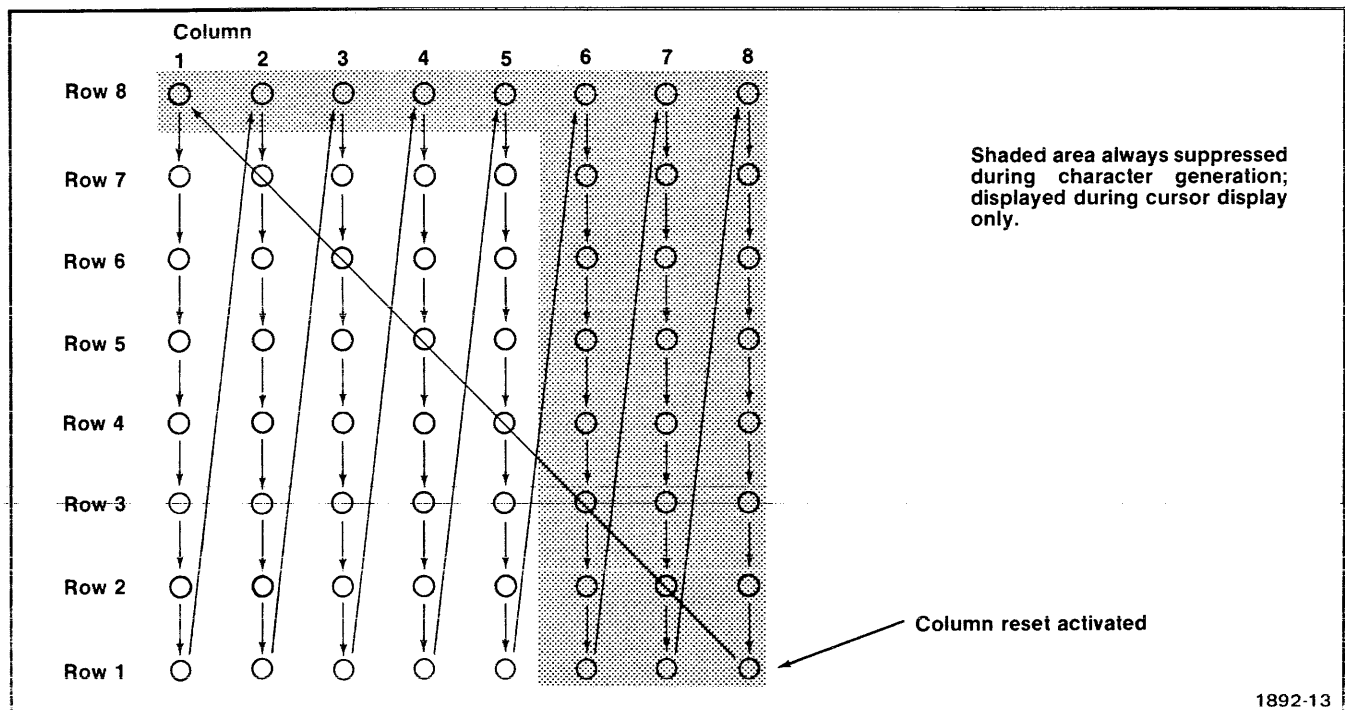

Fig. 3-1. Character Generator Matrix.
The Terminal/Computer Communications block diagram is shown in Fig. 3-1. The different sections are the Computer, the Terminal (which includes the Keyboard, the Display Unit, and the Terminal Control circuitry) and the Communication Link.
**Character Generator General Description.** The Character Generator performs its function by cycling through a dot matrix. See Fig. 3-1. Although the matrix is formed by the coordinates of eight rows and columns, the